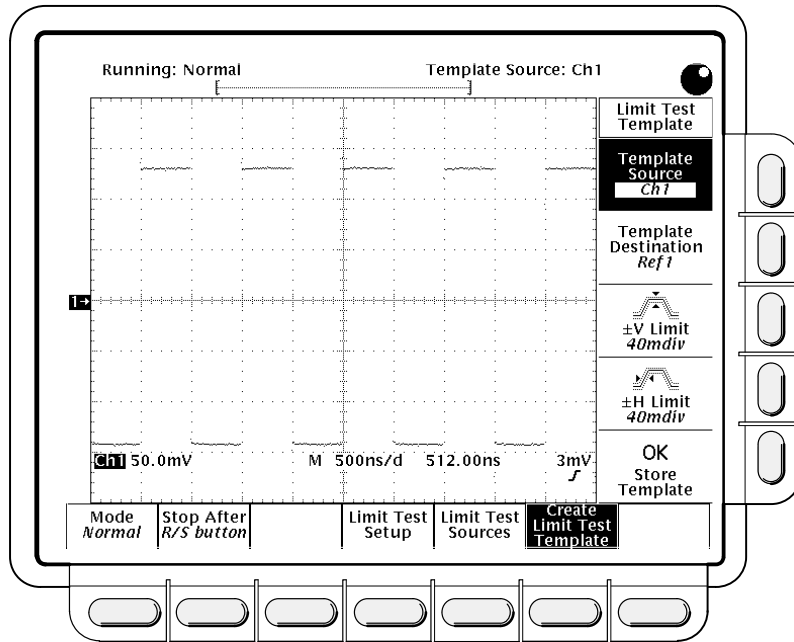

Figure 3-29: Acquire Menu—Create Limit Test Template
1. Press **Create Limit Test Template** (main) → **Template Source** (side) → **Ch1, Ch2, Math1, Math2, Math3, Ref1, Ref2, Ref3, or Ref4** (side). (See Figure 3-29.)